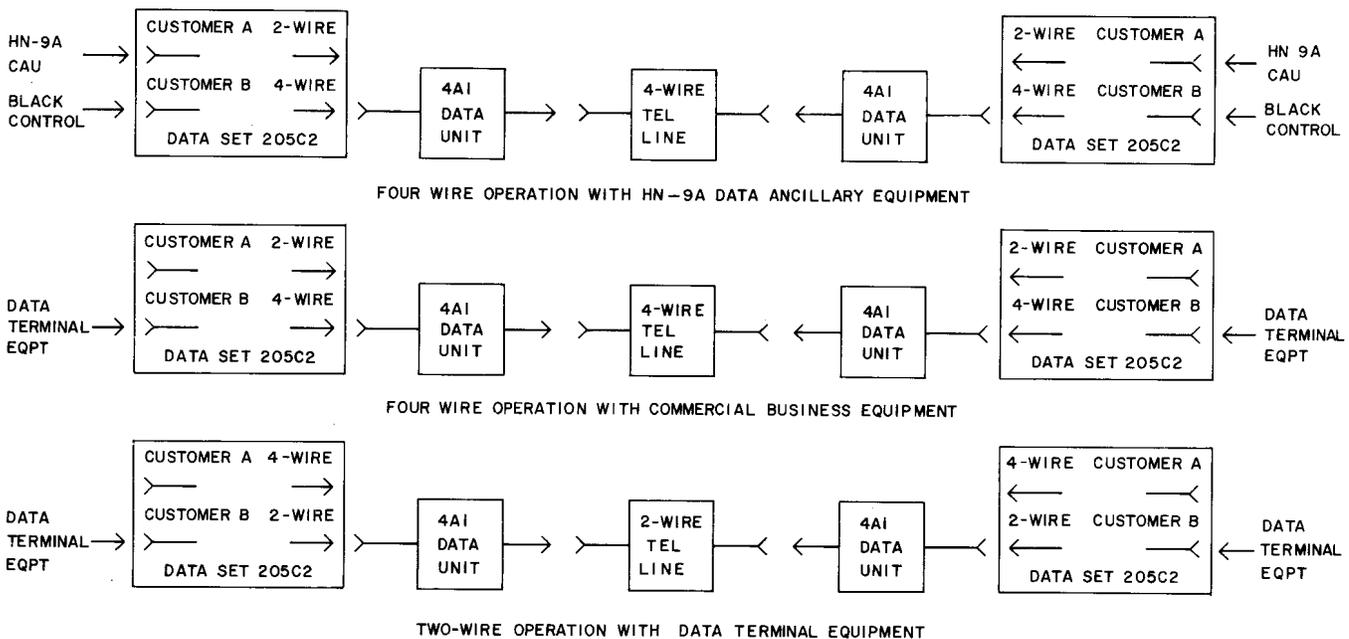

Fig. 1 — System Configurations
2.01 Data Set 205C-type can be used on either 2-wire or 4-wire point-to-point telephone line configurations as shown in Fig. 1. More elaborate system configurations can be developed from these basic types.